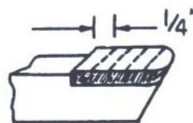

fig. 16
10. The tooth may continue to be ground until the carbide has approximately 1/4" remaining (Figure 16).